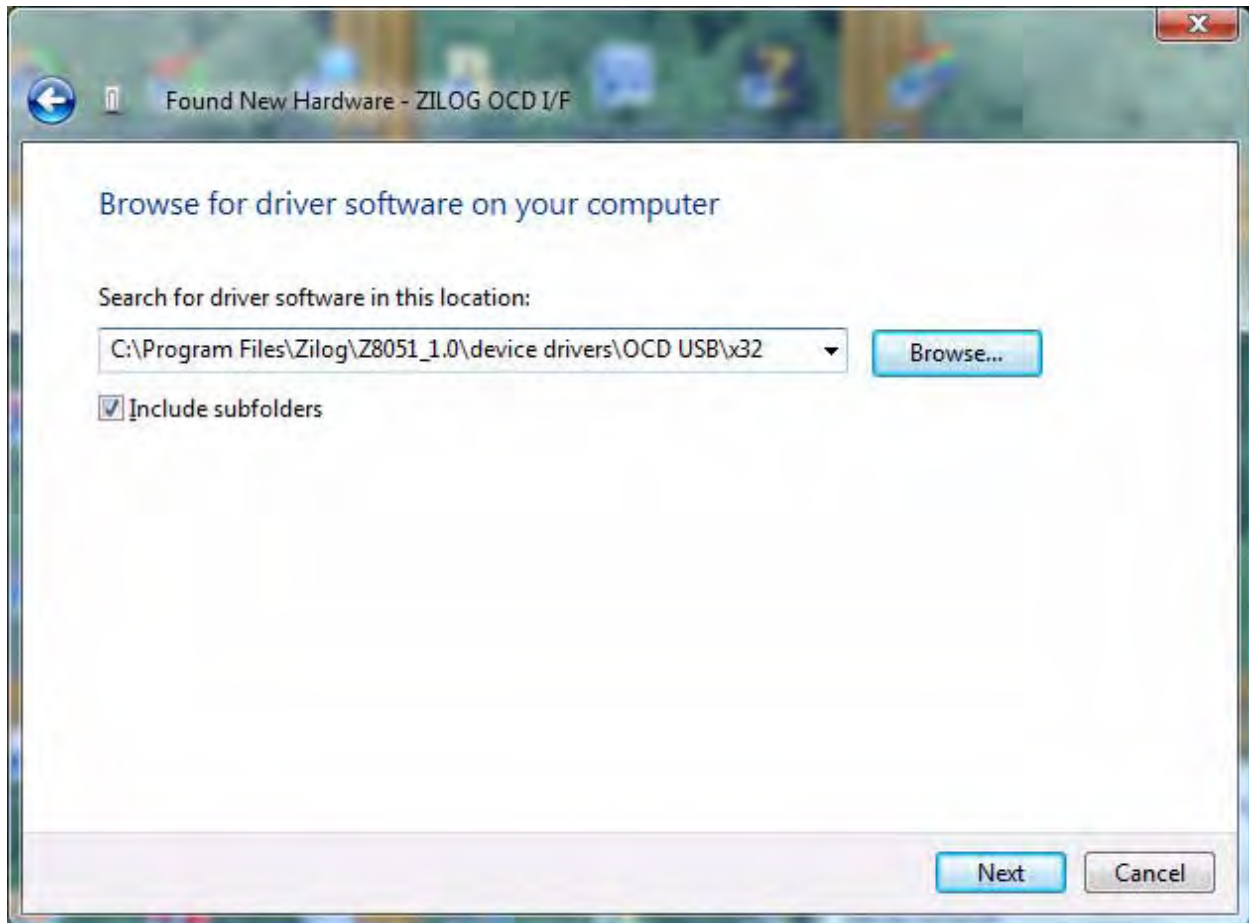

Figure 6. Browse For Driver Dialog, Windows Vista
3. Select **Browse my computer for driver software (advanced)** to display the dialog shown in Figure 6, which prompts you to key in or browse for the location of the .inf file. Depending on the type of computer you use (32-bit or 64-bit), use the **Browse** button to navigate to one of the following paths, then click the **Next** button.